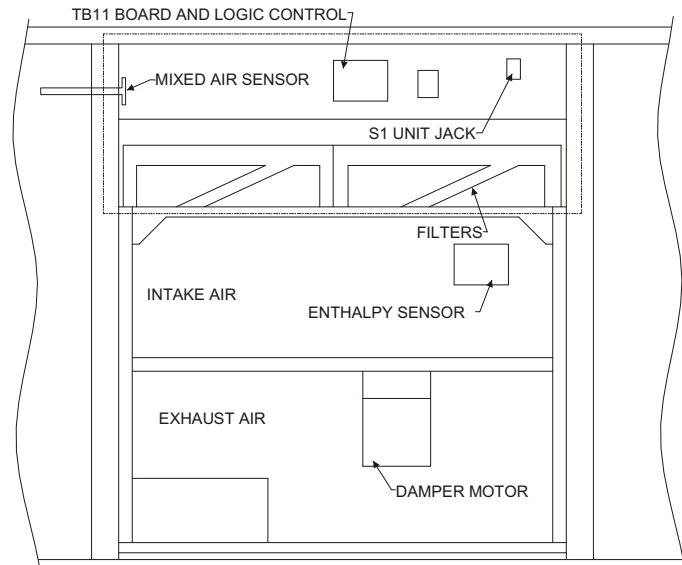

FIGURE 3
7. Position logic control board in filter access area as shown in **Figure 3**. Secure control board with two #10-16 x 1/2 screws.
8. Insert mixed air sensor tube through the mounting hole into the supply air compartment. Secure using two #10-16 x 1/2 screws. **See Figure 3.**